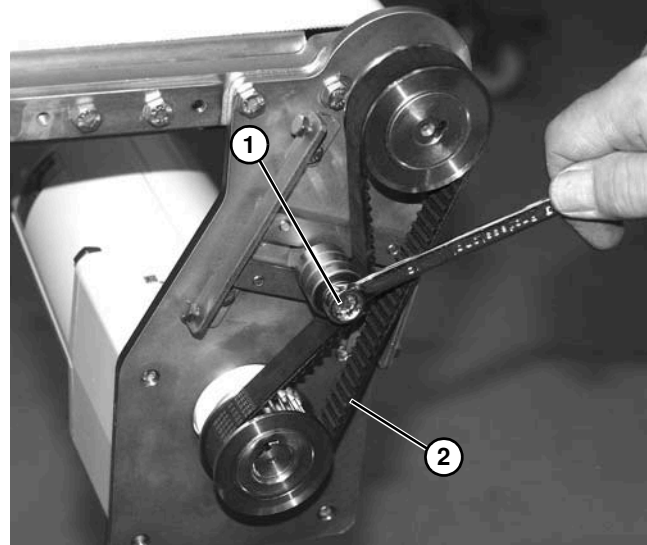

Figure 39
3. Loosen tensioner (**Figure 39, item 1**).
4. Remove timing belt (**Figure 39, item 2**).